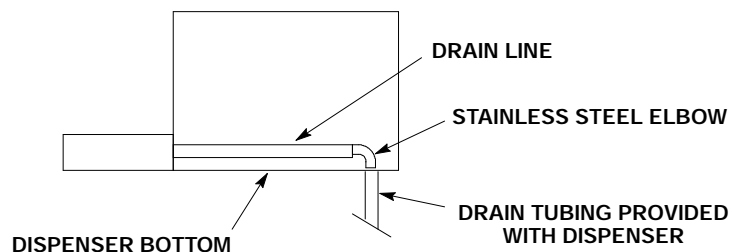

FIGURE 1. SINK DRAIN ASSEMBLY -B, -BC MODELS
- B. To assure proper drainage, do not allow "trap" to form in drain line. Be sure drain line runs flat with bottom of dispenser (See Figure 1)